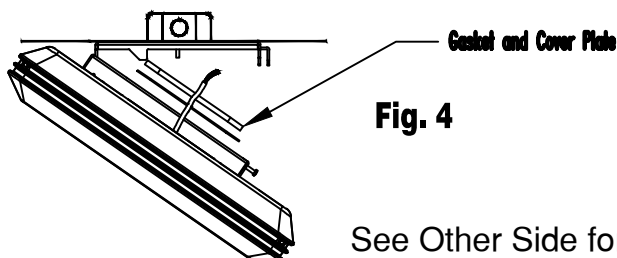

Fig. 4
1. Hook hinge side of luminaire mounting bracket to mounting plate and pull forward, allowing the unit to hinge downward as shown in Figure 4.